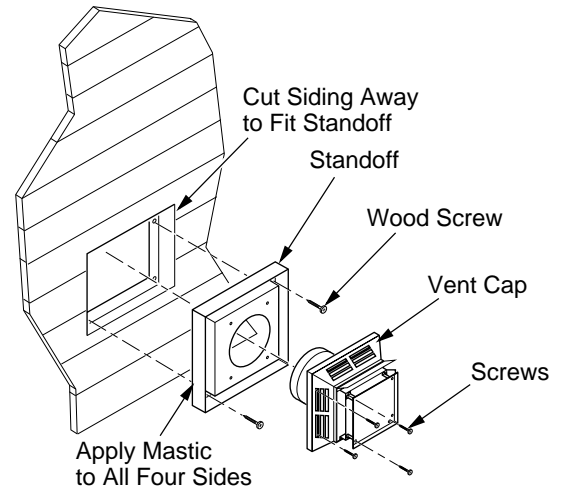

Figure 11 - Installing Siding Standoff (Combustible Exterior)
**Combustible Exterior Wall:** For vinyl siding, stucco, or wood exteriors, a siding standoff must be installed between the vent cap and exterior wall. The siding standoff prevents excessive heat from damaging the siding materials. Siding material must be cut to accommodate standoff. Bolt the vent cap to the standoff. Apply non-hardening mastic around outside edge of standoff. Position the standoff/cap assembly in the center of the 10" square hole and attach to exterior wall with wood screws provided (see Figure 11). The siding standoff must sit flush against the exterior fascia material.